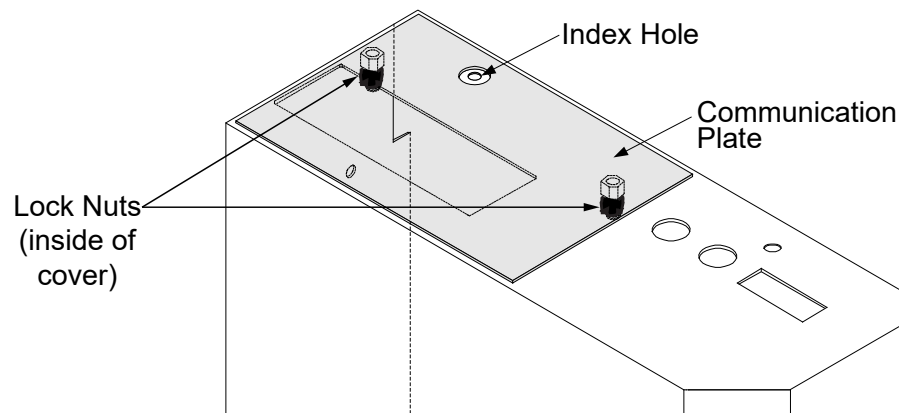

Figure 4-5 M-6200A Control Rear Cover, Communication Plate Orientation
1. Remove and discard the two lock nuts (Figure 4-5) from the inside of the rear cover; then remove the communication plate.
2. Insert the appropriate communication plate onto the top panel of the rear cover, ensuring that the index hole (Figure 4-5) is exposed.
3. Install the kit's lock nuts onto the communication plate's captive screws to secure the rear cover (Figure 4-5).